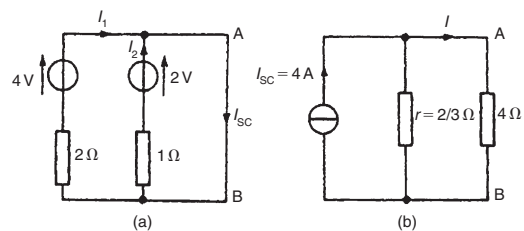

Figure 13.57
- (i) The  $4\Omega$  branch is short-circuited as shown in Fig. 13.57(a)
- (ii) From Fig. 13.57(a),
- (iv) From the Norton equivalent network shown in Fig. 13.57(b) the current in the  $4 \Omega$  resistance is given by: